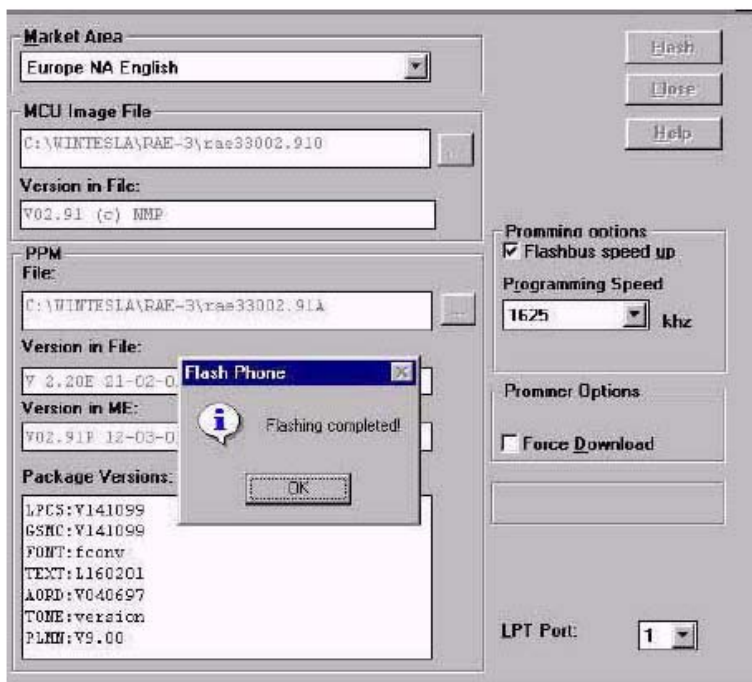

Figure 11. Flash programming completed
13. After Flash programming complete message you can close the flash dialog (see Figure 11)